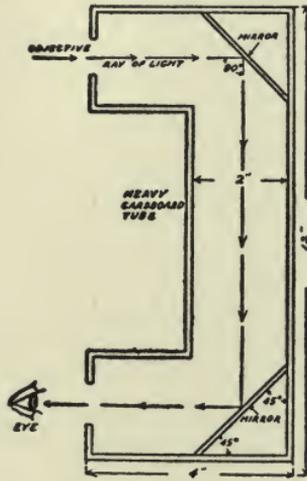

FIG. 51. HOW TO MAKE A SIMPLE MIRROR PERISCOPE.
Make a tube of wood or cardboard 2 inches square and 12 inches long, as shown in Fig. 51. Fit two square pieces of looking-glass into the corners of the tube at 45 degrees—that is half way between the ver-
*How the Periscope Works.*—When, now, you hold the long tube of your periscope in a vertical position that is straight up and down, and the light from an object, a person, or a scene at which the upper horizontal tube, or *objective*, as it is called, is pointed, strikes the first mirror, it bends the rays of light at an angle of 90 degrees, when the light goes straight down the tube as shown by the arrows in Fig. 51.